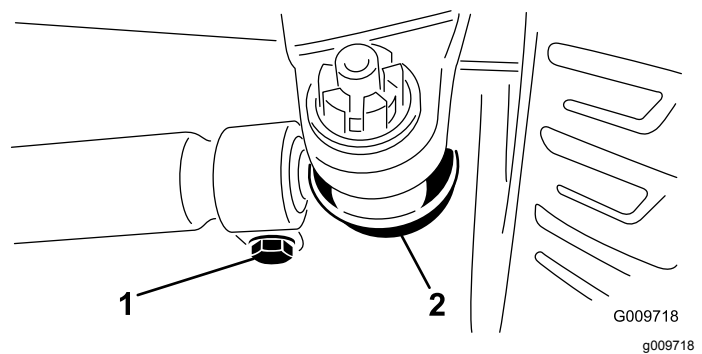

Figure 49
2. To adjust, remove the cotter pin and nut from either tie rod ball joint (Figure 49). Remove tie rod ball joint from axle case support.
3. Loosen the clamps at both ends of the tie rods (Figure 49).
4. Rotate the detached ball joint inward or outward one (1) complete revolution. Tighten clamp at loose end of tie rod.
5. Rotate the entire tie rod assembly the same direction (inward or outward) one (1) complete revolution. Tighten clamp at connected end of tie rod.